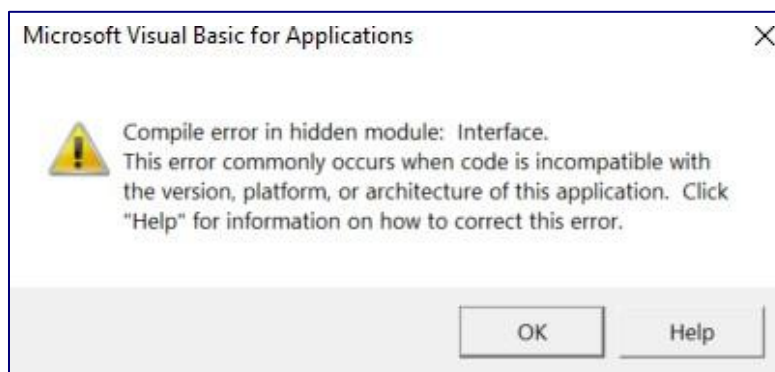

Figure 4. “Compile error in hidden module: Interface” error message
8. After I enter my data into the 45ZCF-GREET file and click the “Generate LCA Results” button, Excel displays a pop-up that says, “Compile error in hidden module: Interface” (Figure 4). Why do I see this error message?